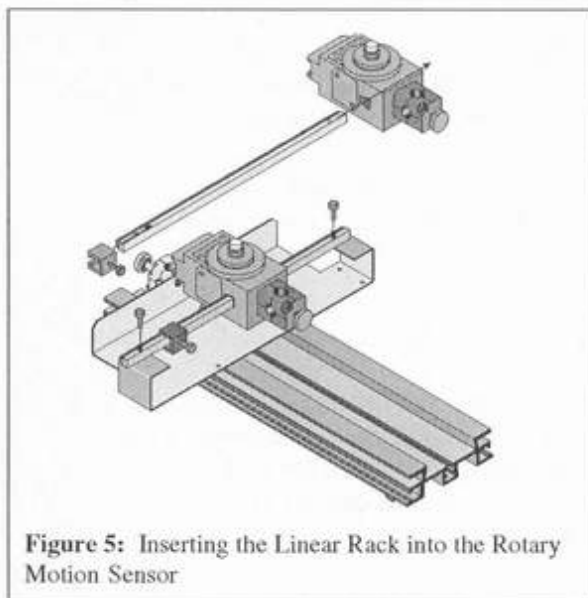

Figure 5: Inserting the Linear Rack into the Rotary Motion Sensor
2. Insert the rack into the side hole in the Rotary Motion Sensor (RMS) (See Figure 5). The movable stop slides over the rack. Place the rack horizontally over the Linear Translator, such that the holes on the rack align over the Linear Translator. Use the provided thumb screws to mount the rack with RMS to the base of the Linear Translator.